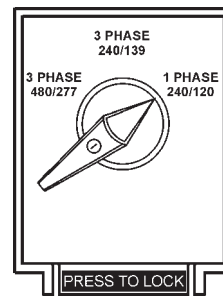

Figure 43. Voltage Selector Switch
4. Place the voltage selector switch in the desired voltage position (Figure 43).